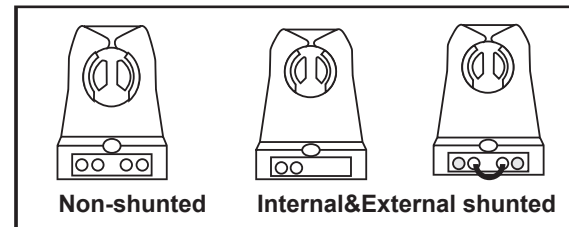

Fig:1 -Lampholder Type
- 7) Identify what type of lampholders are in fixture (Fig.1), If existing lampholder is internally shunted, then replace with new non-shunted lampholder. If lampholder is shunted with a jumper wire (Fig.2), remove wire to convert into non-shunted.